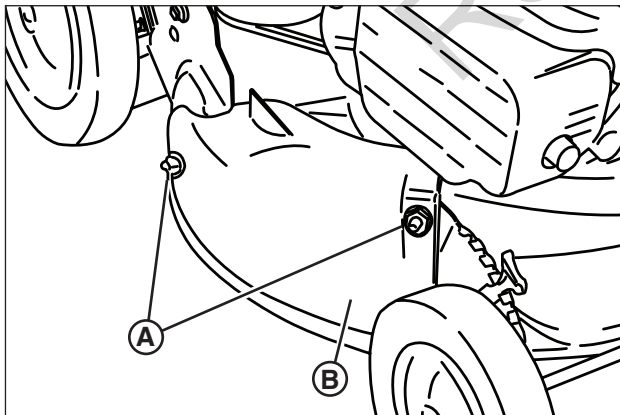

Figure 8: Removing the mulching cover
1. Remove the nuts (**A**, **Figure 8**) securing the mulching cover (**B**) to the mower deck.